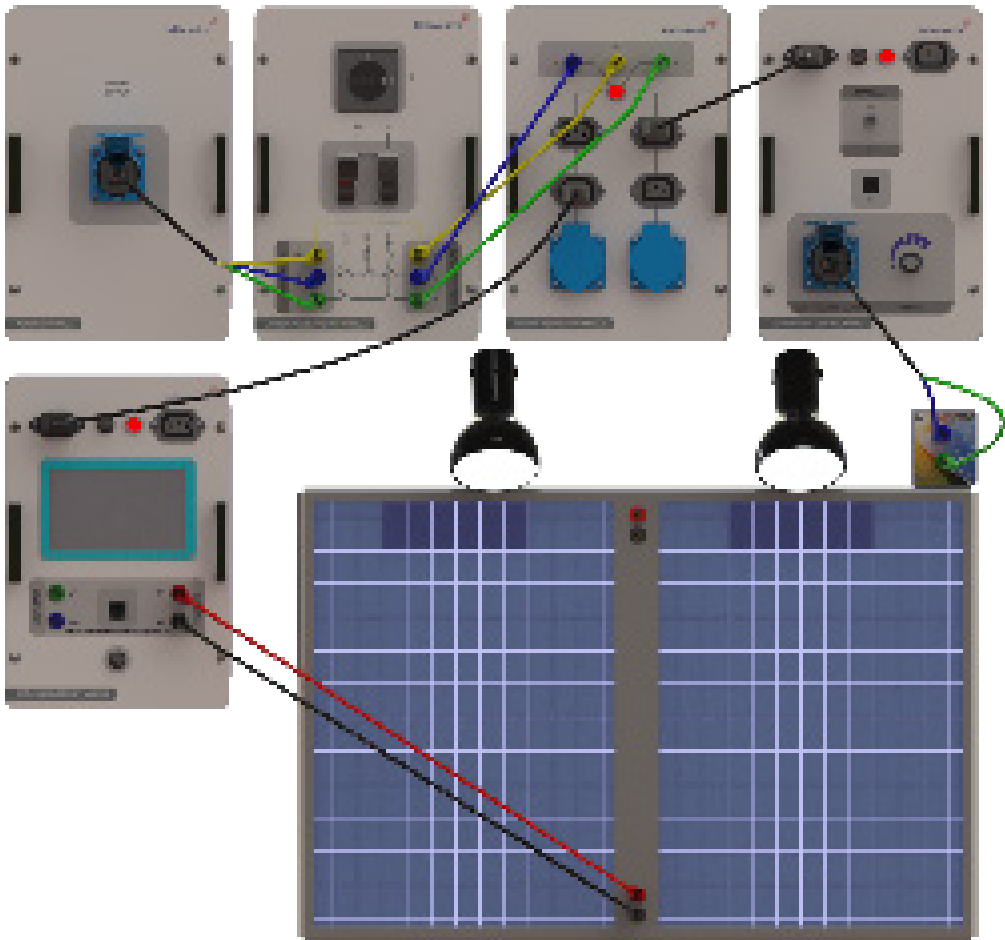

Figure-2
- 5) Connect as shown in figure-2. Record in chart-1 the value observed on the ampermeter placed on the AC/DC Measurement Module. Notice that this is the short-circuit current (I_{sc2}) value corresponding to panel-2.